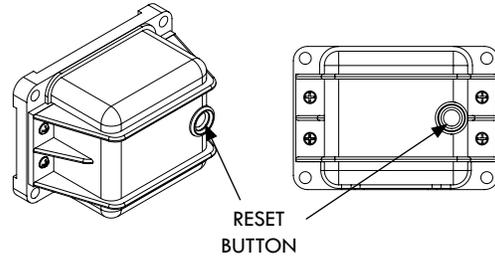

Figure A-53: Vibration Switch RESET button
- B. With machine running, back off adjusting screw one turn CCW and reset (see Figure A-53). If it will not reset, back screw off two turns CCW, etc. Again turn screw slowly clockwise until actuation occurs. The difference between the two actuating points in "a" and "b" is the normal vibration level in divisions. One dial division is 0.1G; one full revolution is 1.0G.